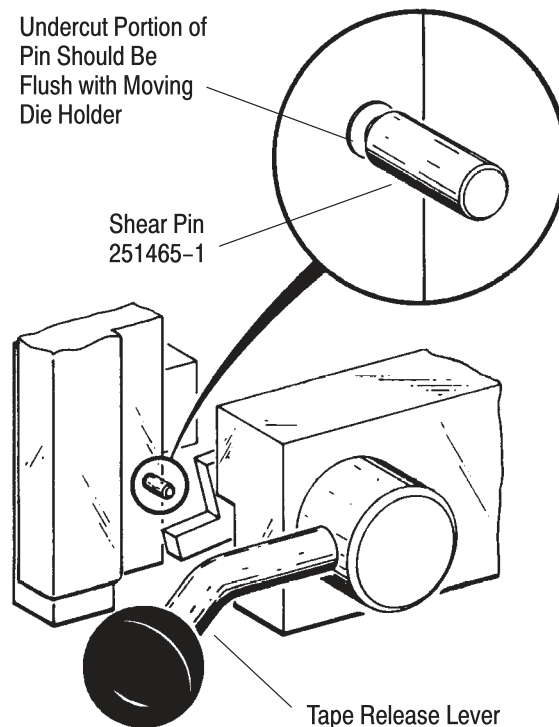

Figure 28
3. Insert a new shear pin into the upper die holder, tapered end first. The undercut portion of the shear pin should be flush with the side of the upper die holder, as shown in Figure 28.